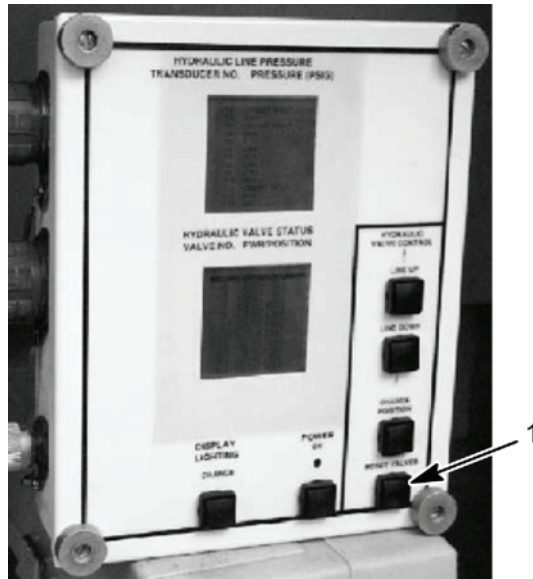

Figure 7. HDC Control Box
- Reset all HDC solenoid valves by selecting the RESET VALVES button (Figure 7, item 1) on the HDC control box.